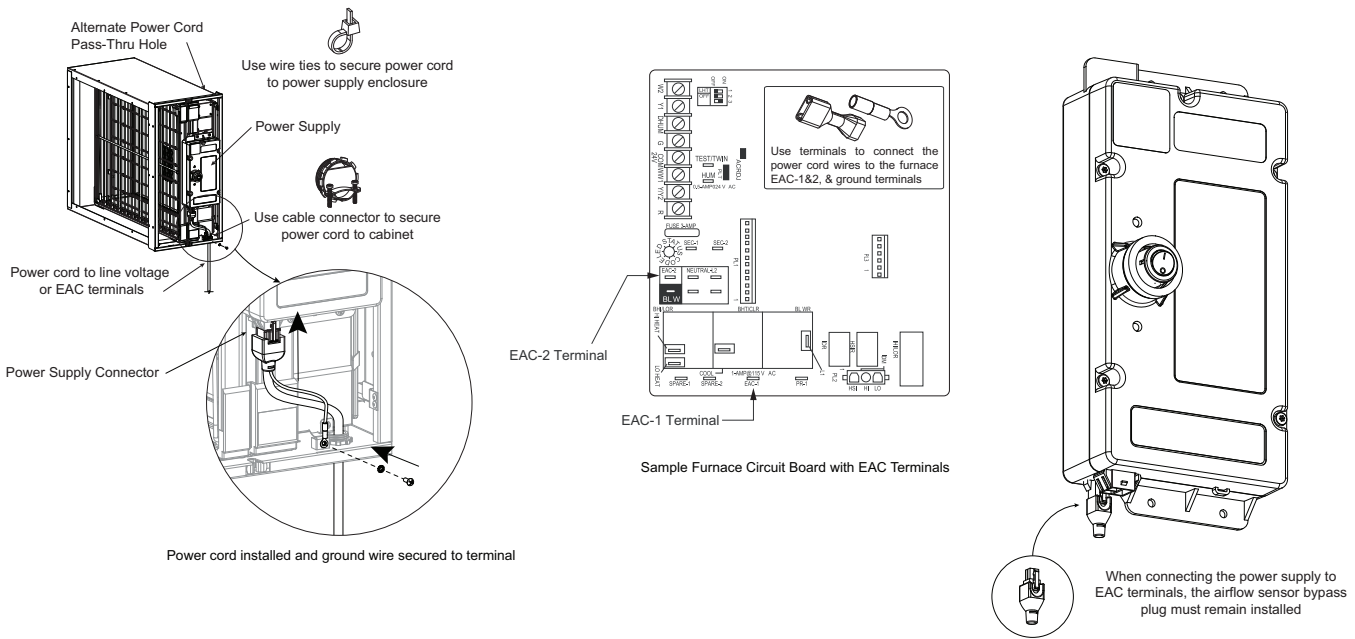

Fig. 9 - Perfect Air Purifier Electrical Connections
- Connect the power cord and airflow sensor bypass plug to the appropriate power supply connectors (see Fig. 9). When connecting the power cord, the green ground wire must be attached to the ground terminal on the cabinet.
NOTE: The air purifier must only be powered when airflow is present. The furnace control EAC spade connections provide power only when the furnace blower is operating. When connecting to EAC terminals, the airflow bypass plug must be installed for proper operation (see Fig. 9). If EAC connections are not available, contact your local HVAC distributor for alternative options.